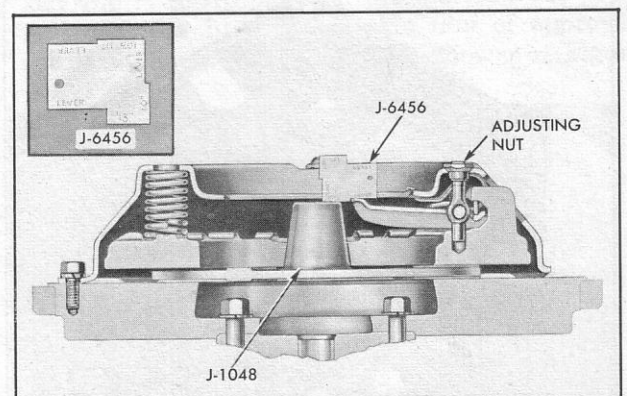

Fig. 21—Setting Lever with Height Gauge
4. Make a sheet metal lever height gauge like that shown in Figure 21 or use Tool J-6456. The step (or notch), should be  $\frac{1}{8}$ " by approximately  $\frac{5}{16}$ " long.